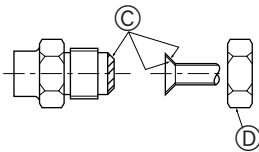

Fig. 4-1
4.2. Connecting pipes (Fig. 4-1)
- Apply thin layer of refrigerant oil to pipe and joint seating surface before tightening flare nut. ①
- Use two wrenches to tighten piping connections. ②
- Apply refrigerating machine oil over the entire flare seat surface. ③
- Use the flare nuts for the following pipe size. ④
- ① (Fig. 4-1)
- ② (Fig. 4-1)